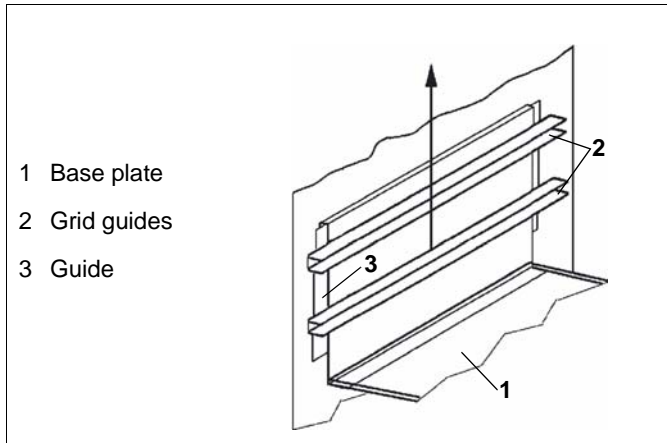

Fig. 15 Grid guide
- ⇒ To clean the oven, take out the grid guides (2 / Fig. 15) and clean them.
- ⇒ Remove the base plate (1 / Fig. 15).
- ⇒ Lift up the grid guide (2 / Fig. 15) and lift out of the grid (3 / Fig. 15).
- ⇒ Remove the base plate grid guide (1 / Fig. 15).